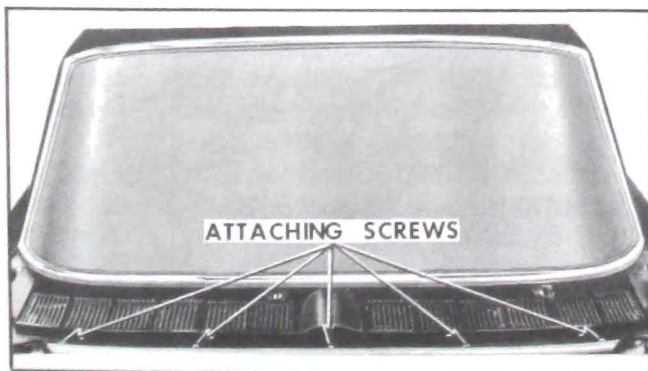

Figure 13-23—Air Intake Grille
3. Raise hood, remove screws securing grille to shroud. See Figure 13-23.
5. To install, apply medium-bodied sealer around screw attaching holes and grille retaining slots. See Figure 13-23.